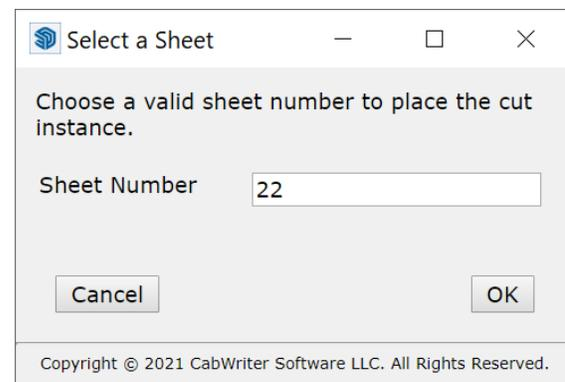

Figure 22 The Select a Sheet dialog box always suggests the last sheet
- f) If you wish to abort a cut & paste, either click the Cancel button on the Select a Sheet dialog box in Figure 22, or, if you are moving the selected instance on the target sheet, simply move the instance until it is red